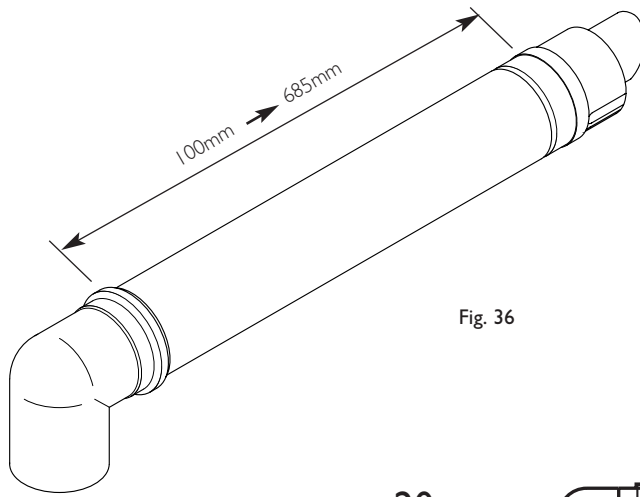

Fig. 36
1. The standard flue is suitable for lengths between 100mm minimum and 685mm maximum, as measured from the edge of the flue elbow outlet to the joint between the terminal and air duct (Fig. 36).